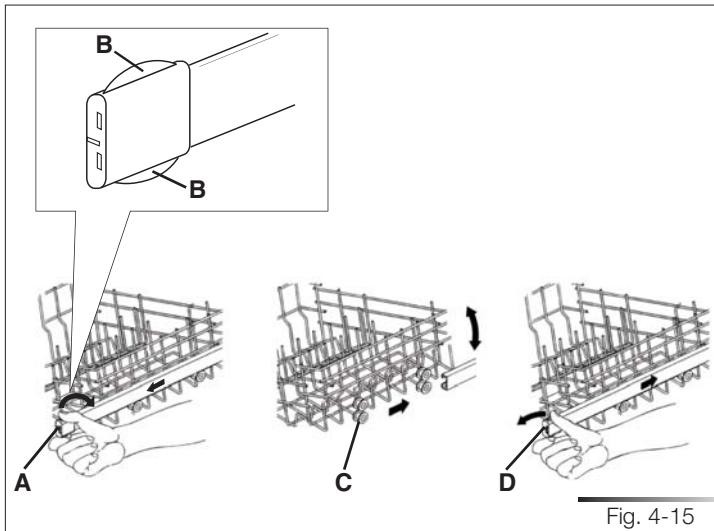

Fig. 4-15
Version A (see fig. 4-15): the upper rack can be adjusted in two positions, according to the user's needs and according to the height of the dishes in the lower rack. Proceed as follows:
- pull out the right-hand rack guide. Remove the stop (ref. A fig. 4-15) after releasing the tabs (ref. B fig. 4-15) (first release the upper tab and then the lower one);
- fit the upper or lower pair of wheels (ref. c fig. 4-15) into the guides, depending on the setting required;
- return the guide stops to their original positions (ref. d fig. 4-15) (first attach the lower tab and then the upper one).